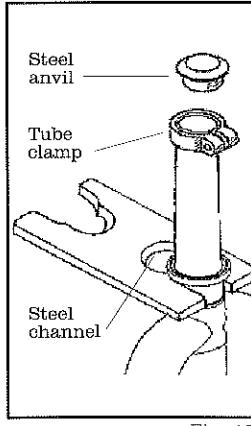

Fig. 15
1. Clamp or bolt the **steel channel** to a bench with the flanges facing up and the large opening overhanging the edge of the table (Fig. 15).